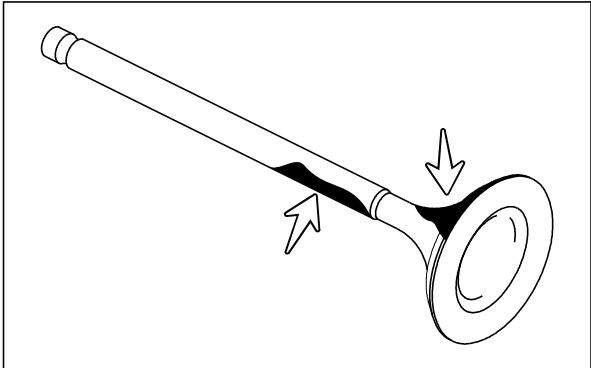

Fig. 3.61
- Carbon deposits on the valve stem rubs continuously on guide valve and results in increased clearance between the stem and guide valve. Clean the valve stem with suitable cleaning solvent. (Fig. 3.61) Repeat with other valves.